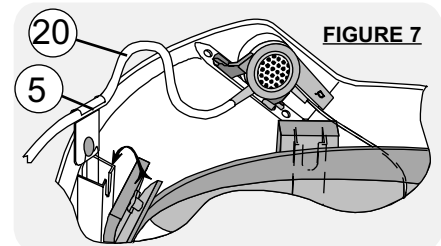

FIGURE 7
Carefully slide the cable inside the holding groove of the anti-tearout device (5) leaving a small length of cable (20) for manoeuvre - as shown in figure 7.